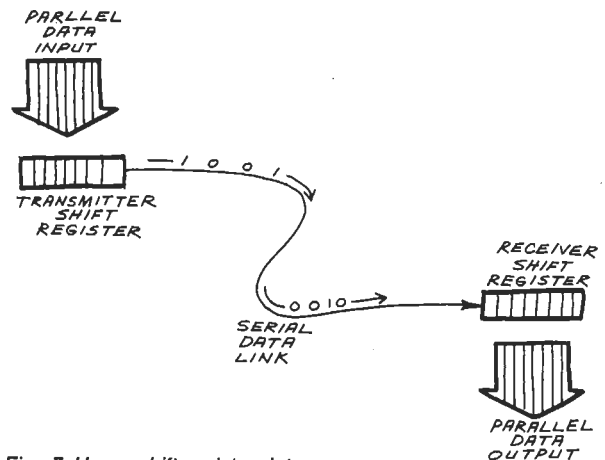

Fig. 7. How a shift-register data transmission system operates.
**Data Transmission.** Computer data is usually transmitted in serial fashion one bit at a time. A shift register at the transmitting end reduces each word to be transmitted into its component bits, and one bit is transmitted each time a clock pulse arrives. A second shift register at the receiving end reconstructs the transmitted words bit by bit. It passes them to a storage register each time a complete word has been received and reconstructed. Figure 7 summarizes a shift-register data transmission system.